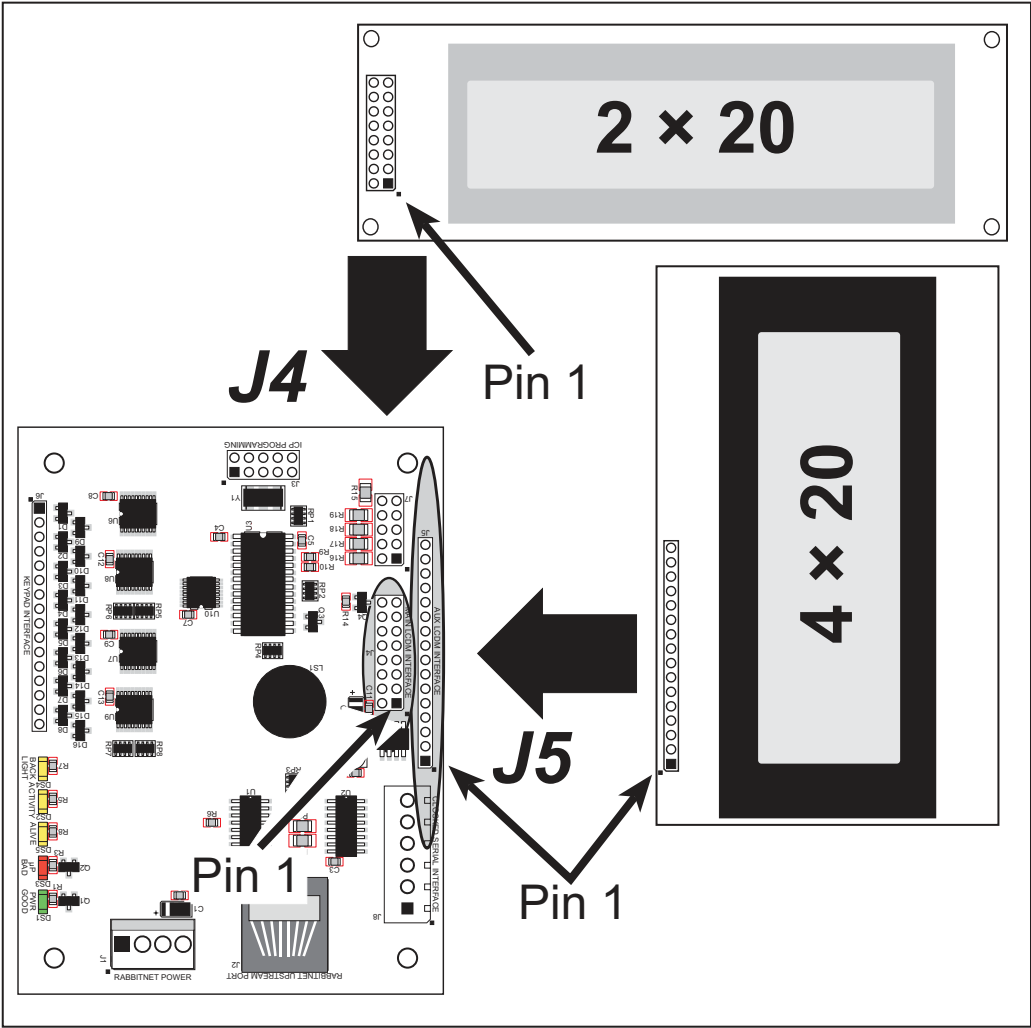

Figure A-2. Connecting Displays to Keypad/Display Interface Headers J4 and J5
2. Connect the 4 × 20 display to header J5 on the Keypad/Display interface as shown in Figure A-2.